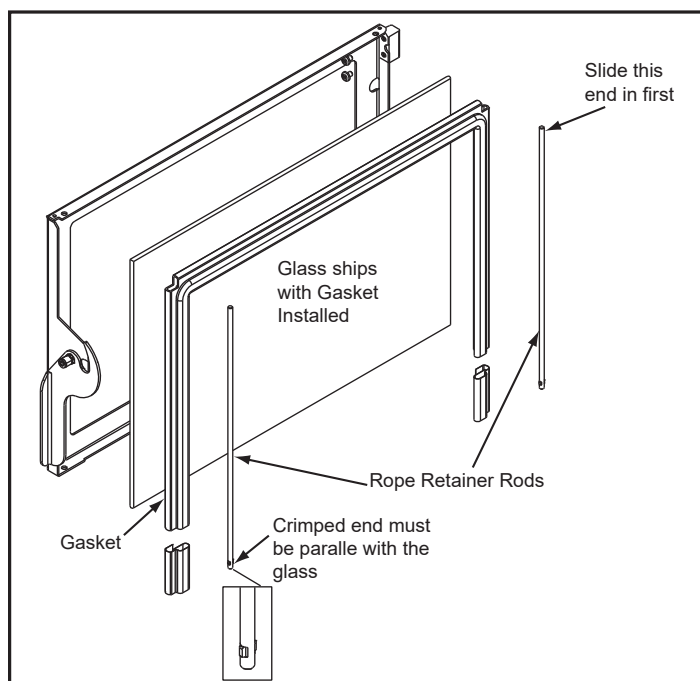

Figure 29.2
4. Slide the retainer rod into the top hole first, and then line up the bottom crimped end with the hole in the door. The crimped end must be parallel with the glass in order to insert it into place (**Figure 29.2**).